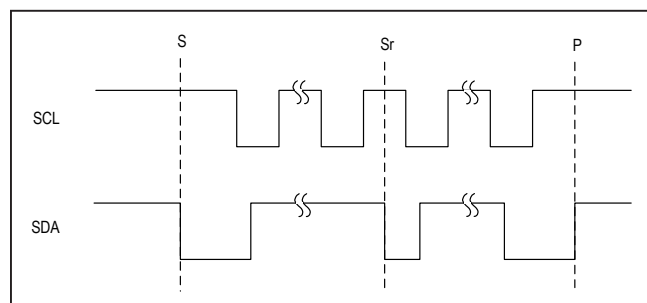

Figure 14. I2C START, STOP, and REPEATED START Conditions
When writing to the MAX20345 using I2C, the master sends a START condition (S) followed by the MAX20345 I2C address. After the address, the master sends the register address of the register that is to be programmed. The master then ends communication by issuing a STOP condition (P) to relinquish control of the bus, or a REPEATED START condition (Sr) to communicate to another I2C slave. See Figure 14.